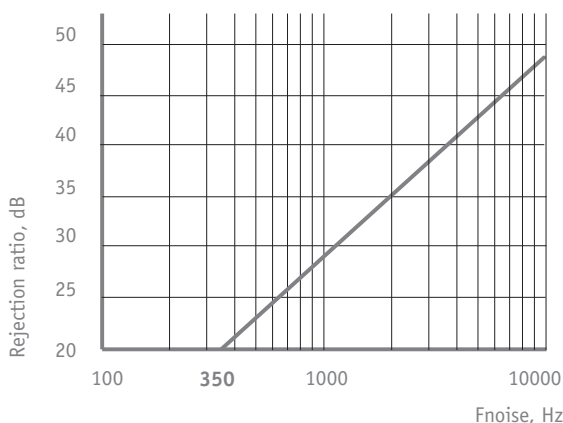

Figure 71
- ²⁾ Immunity on sympathetic inrush, poor arcing noises, etc. See also Figure 71